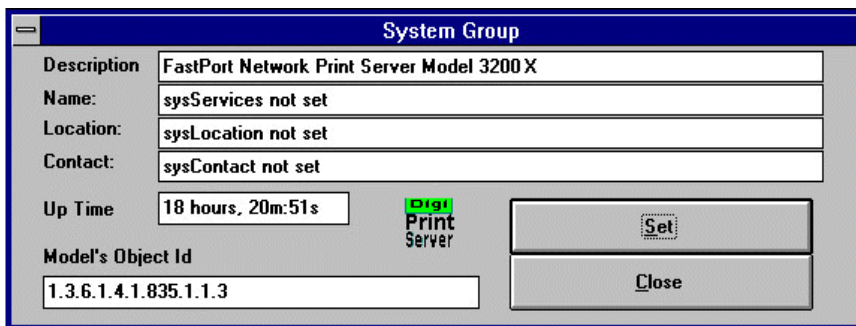

Figure 4-5. Digi/MiLAN Logo Message
- **Digi/MiLAN Logo:** Depending on the model of your FastPort, either a “MiLAN” or a “Digi” appears on the top, right-hand side of the graphic. When this Logo is clicked on, FastPort specifications appear. Reset **Name**, **Location**, and **Contact**. Press **Set** after the changes are made (Figure 4-5).